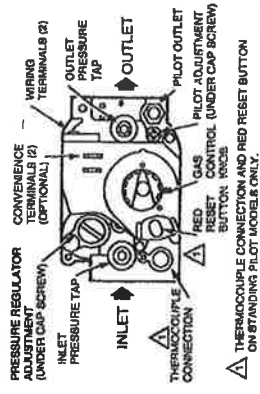

Fig. 1. Top view of VR8200 combination gas control.
- Remove regulator cap screw and pressure regulator adjusting screw. Refer to Fig. 1.
2. Remove outlet pressure tap plug from gas control and connect pressure gauge. Refer to Fig. 1.